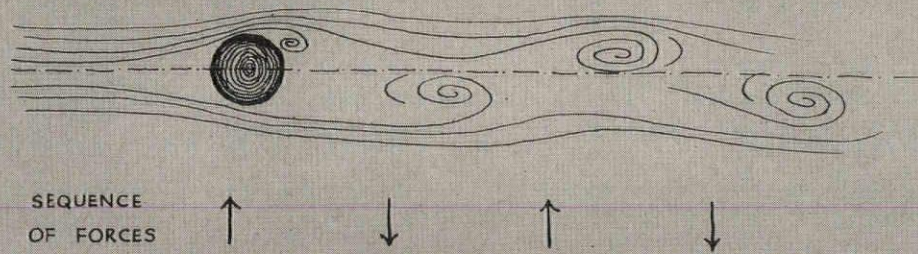

Fig. 9. VON KÁRMÁN VORTEX STREET
1. *Kármán vortices.* If a steady wind blows against a cylinder or other obstruction, the wake is made up of a vortex street (see Fig. 9). The shedding of these vortices on the leeward side causes forces to act on the cylinder at right angles to the direction of the wind, first from one